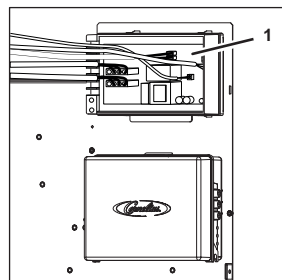

Figure 120
2. Disconnect all necessary electrical cables and plugs from control system 2 (Figure 120/1).
6. Connect all electrical cables and plugs to control system 2 (Figure 120/1).